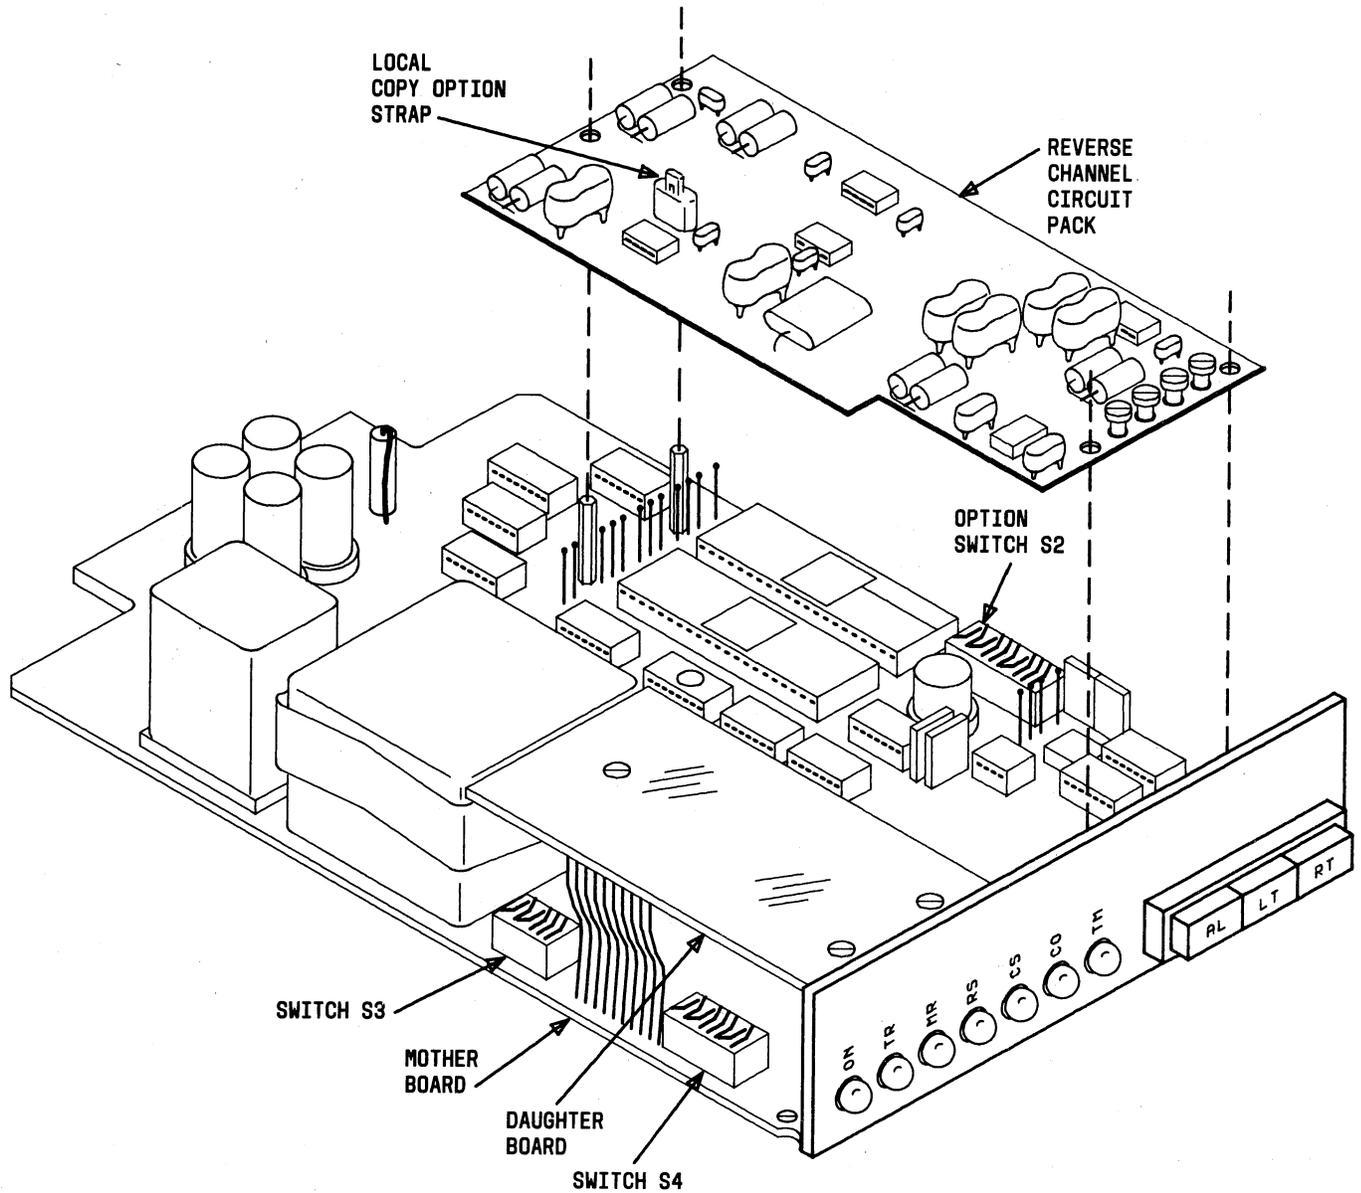

Fig. 5—DS 202SR-L1C/3B
- **Reverse Channel:** This option may be used to keep echo suppressors disabled, to provide a break feature, to provide circuit assurance, or as a feedback signal for error detection and retransmission systems. Reverse channel circuit pack JY3B provides this option (Fig. 5).
- **Local Copy on Reverse Channel:** With option IN, the local reverse channel receiver monitors the reverse channel transmitted signal. The option is installed (IN or OUT) via a strapping plug (Fig. 5) on the reverse channel CP.
- **Grounding Option:** Signal ground (AB) is normally connected to frame ground (AA)